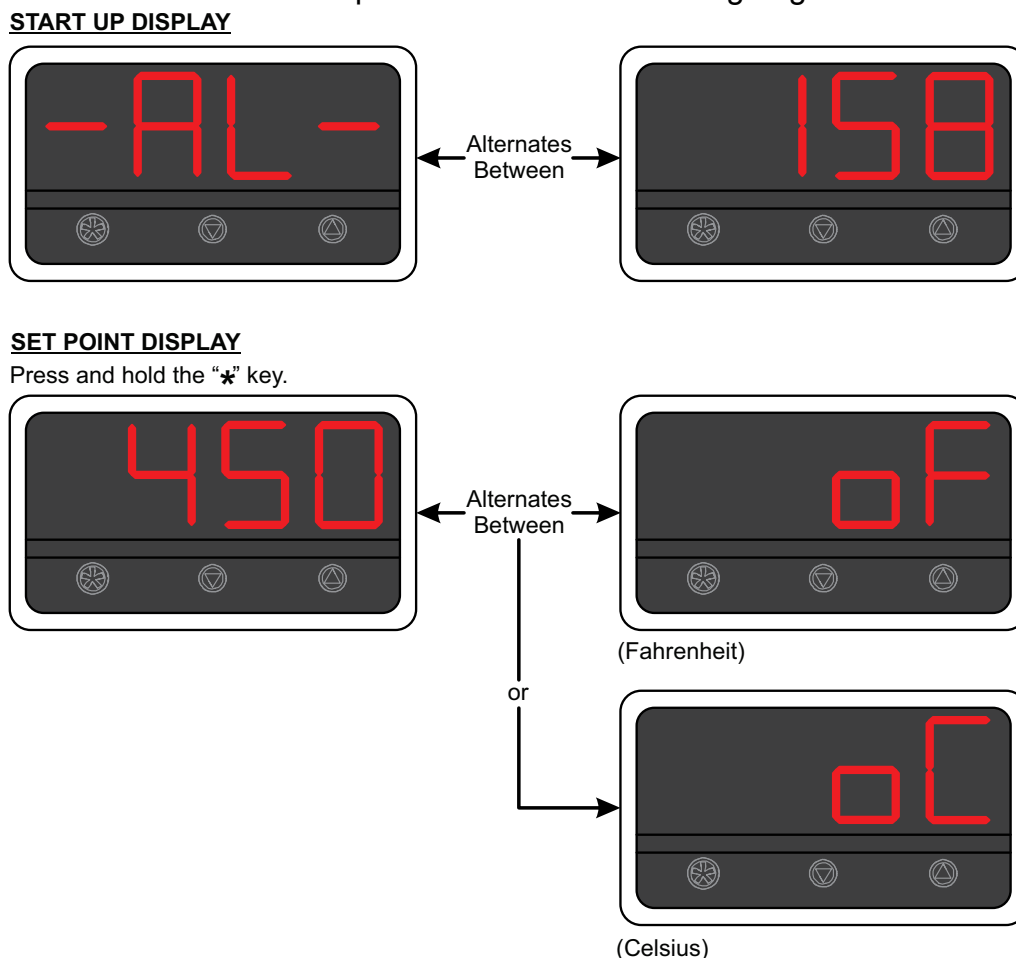

Figure 3-12: Displaying the Set Point
To display the set point, push and hold in the "*" button. The display (see Figure 3-12: Displaying the Set Point) will alternate between the set point temperature and the temperature scale (0°C for Celsius and 0°F for Fahrenheit). To change the set point, push and hold in the "*" button and then press the "▲" or "▼" keys to increase or decrease the setting. Release the buttons when done. Only make small increment changes to the set point until the desired closure is achieved. Be sure to allow five to ten minutes for the heaters to reach their optimum level before sealing bags.
8. Turn **HEATER ON/OFF** switch to the **ON** position (see “HEATER ON/OFF Switch” on page 2- 5.). Set the temperature controller to the desired set point (see Figure 3-12: Displaying the Set Point). For most common bag types the initial setting should be about 450°F (232°C). Allow a minimum of 15-20 minutes for the machine to warm up. Use the "Trial Run / Bag Closure" technique mentioned below and adjust the temperature as necessary to get a good quality bag seal.